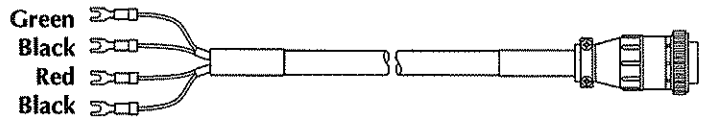

Figure 10 - External Machine Interface Cable (023206) and Signals
23. Make connections to machine interface - Fig. 10.